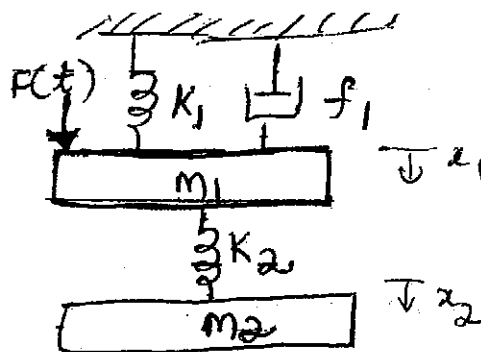

Fig. 2 (a)
2. a) Write the differential equations governing the behaviour of the mechanical system shown in Fig. 2 (a). Also obtain the analog electrical circuits based on (a) Force current analogy and (b) Force - Voltage analogy. 15